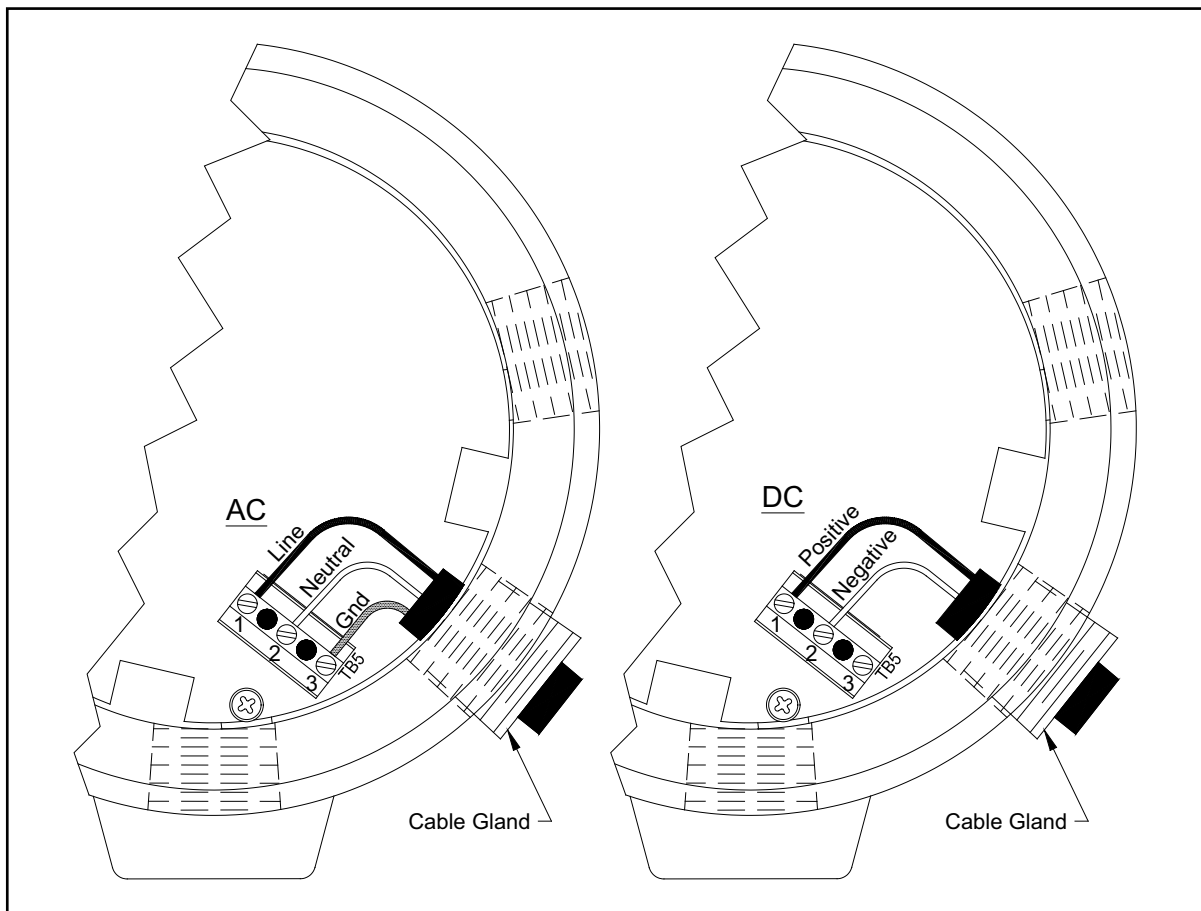
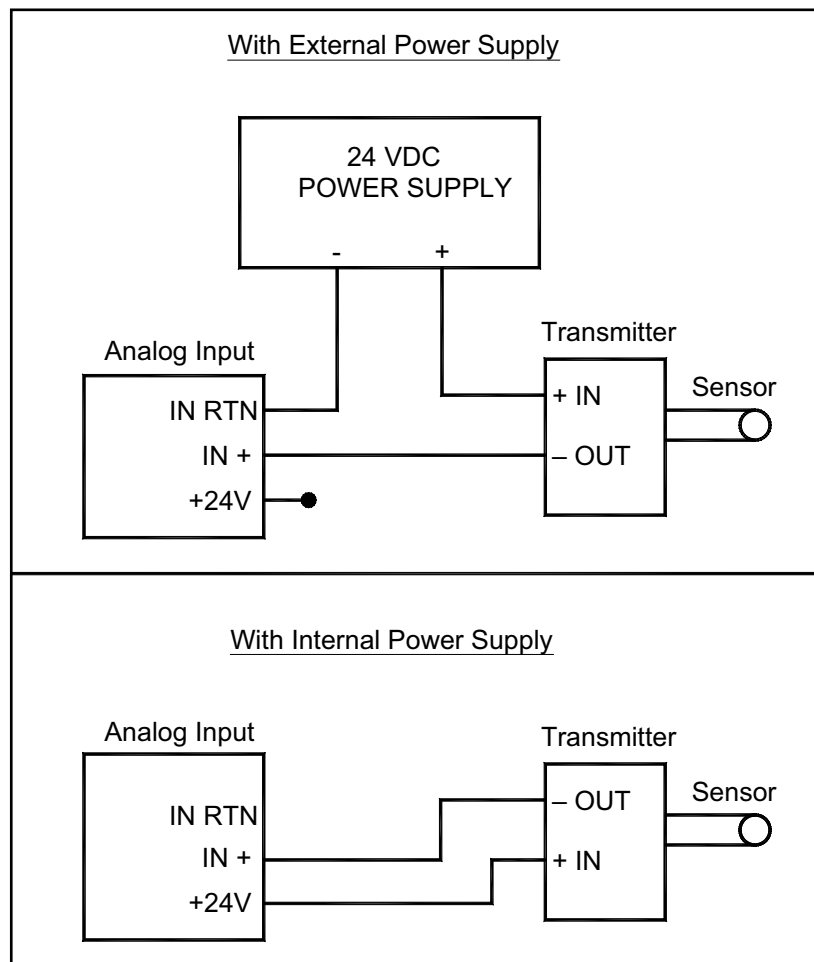
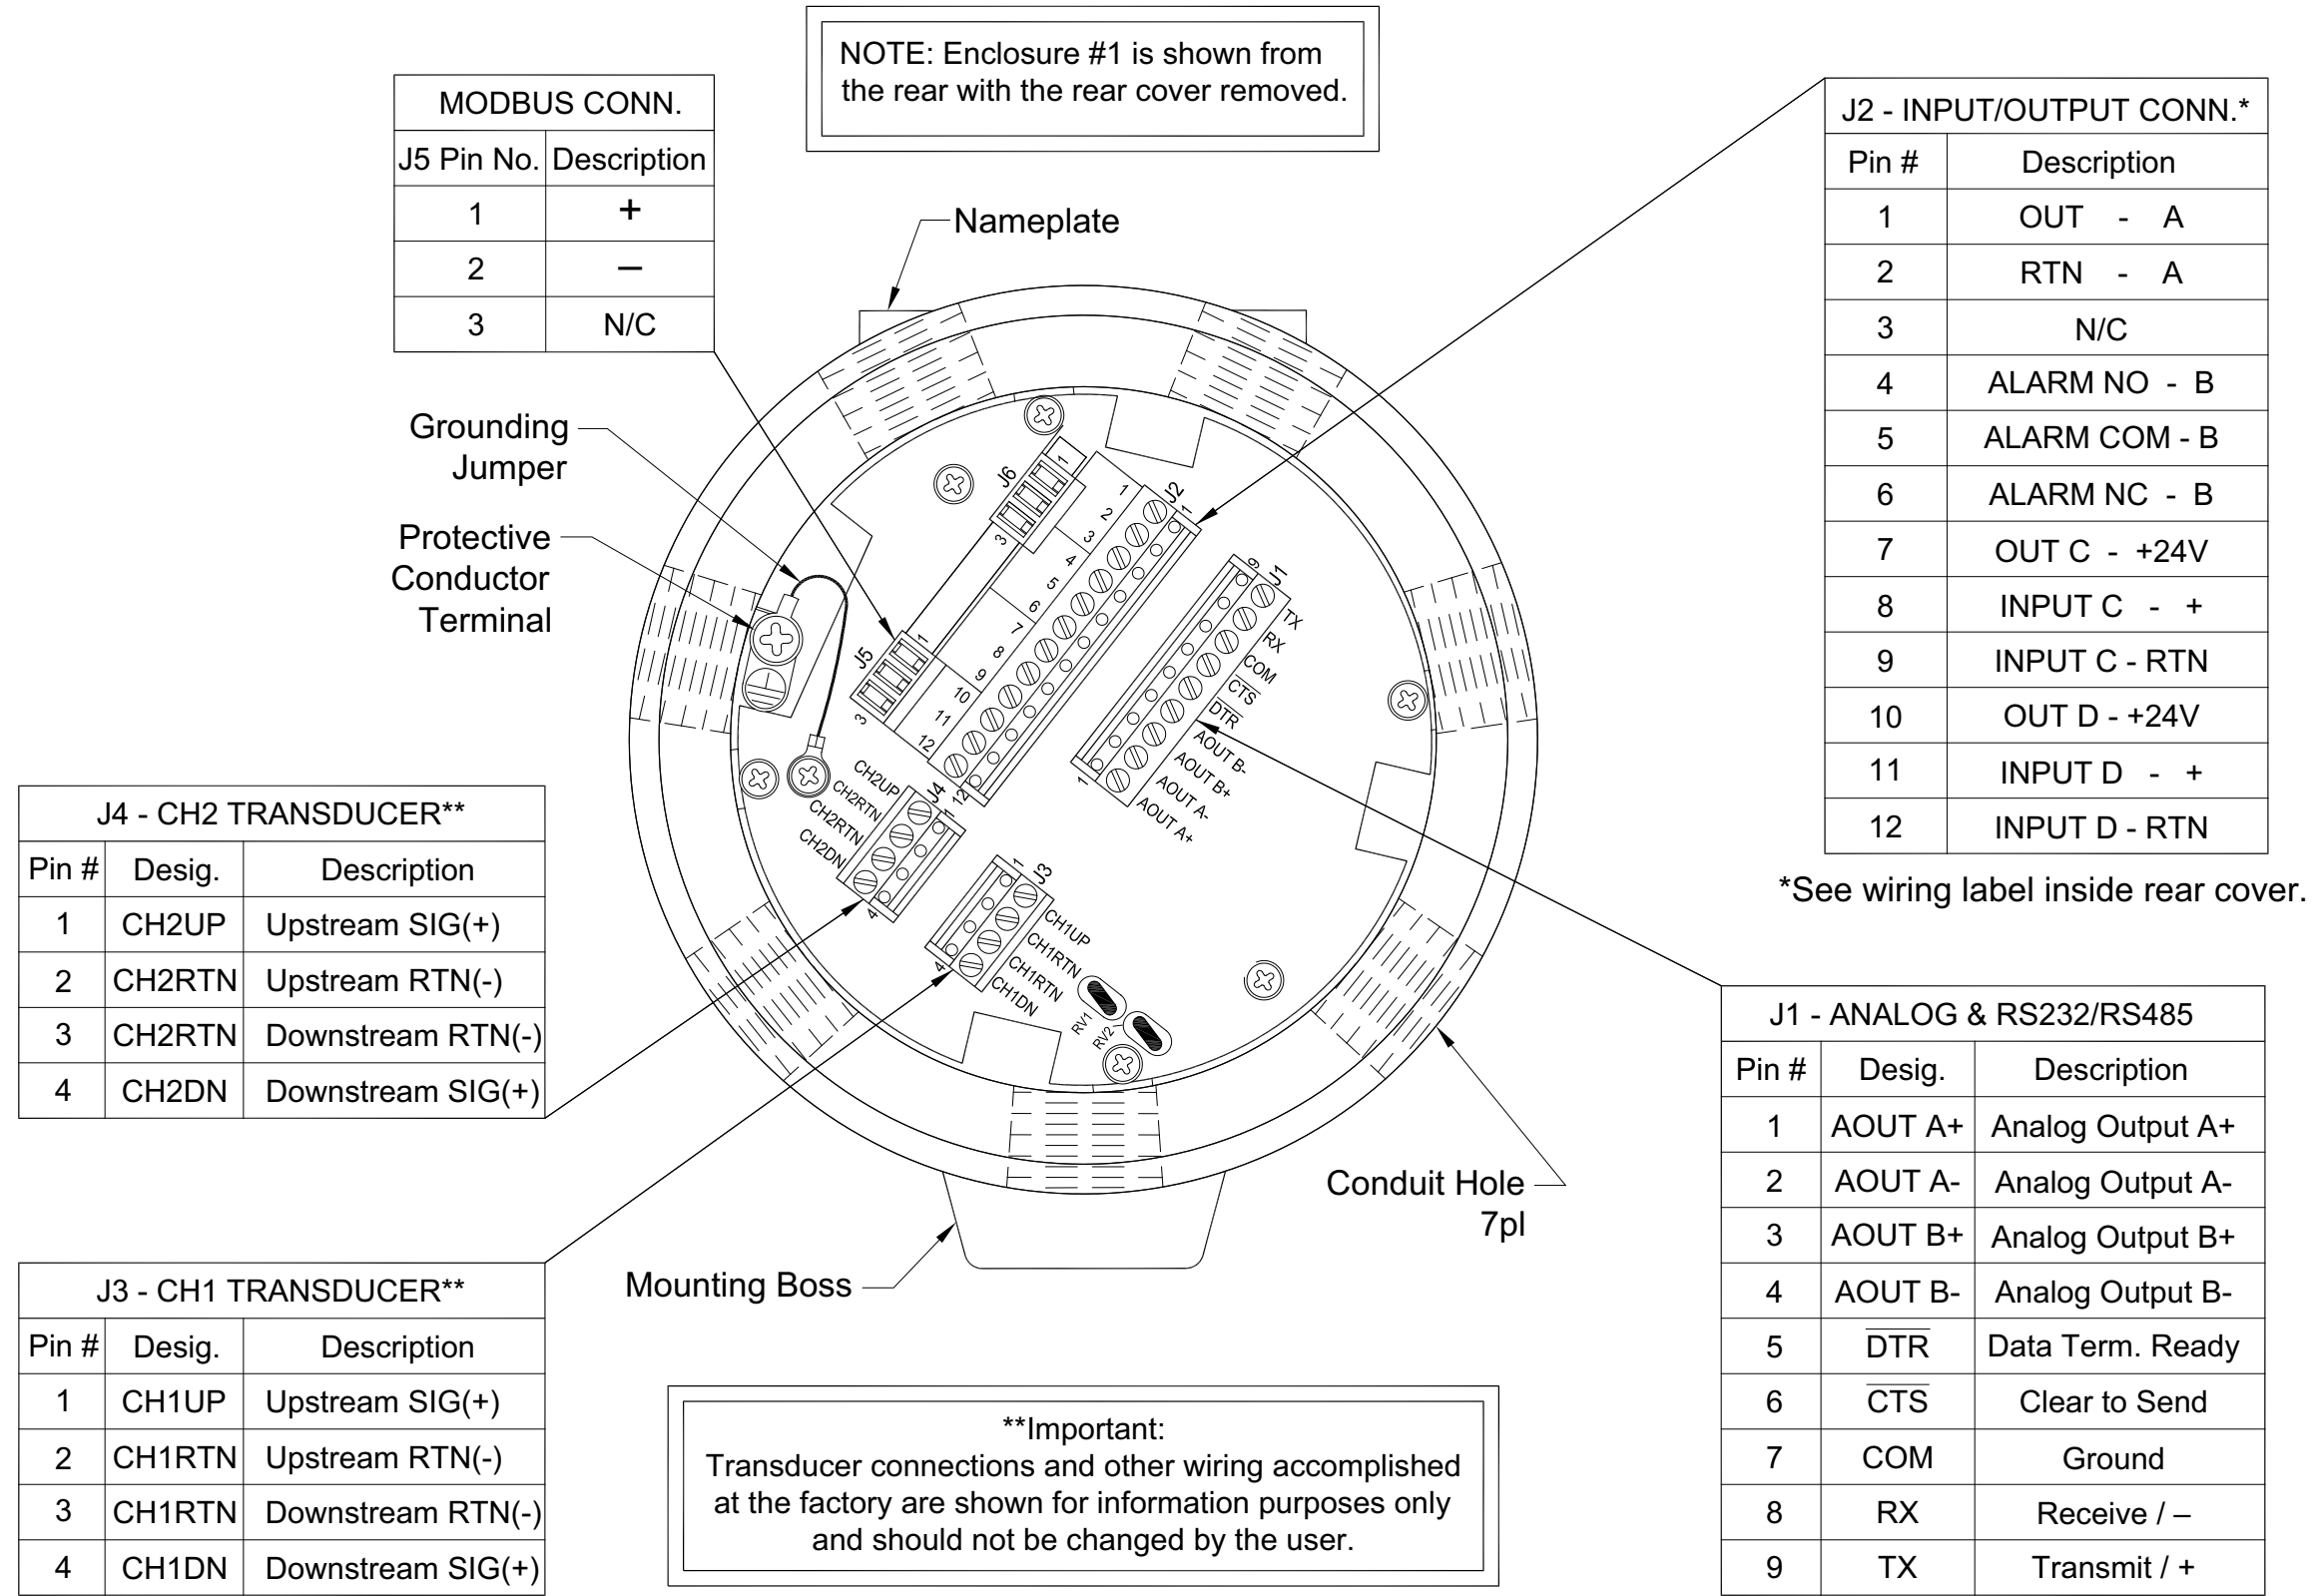

Figure 13: Enclosure #2 - Wiring the AC or DC Line Power
Figure 16: Analog Input Wiring Diagram
Figure 20: Sentinel Enclosure #1 - Terminal Block Layout
See *Figure 13 on page 17* to locate terminal block TB5 and connect the line power to the Sentinel as follows:
2. Install a suitable cable gland in the **Power Cable Inlet** conduit hole indicated in *Figure 13 on page 17*. If possible, avoid using the other conduit holes for this purpose, to minimize any interference in the circuitry from the AC power line.
4. Route the cable through the chosen conduit hole of enclosure #2 and connect the line power leads to terminal block TB5, using the pin number assignments shown in *Figure 21 on page 29* and *Figure 13 on page 17*.
To wire the RS485 serial port, refer to *Figure 20* on page 28 and either *Figure 22* on page 30 (AC) or *Figure 23* on page 31 (DC) and complete the following steps:
Connect the two leads and the shield of the *Modbus* line to terminal block J5, slot 2 of the flowmeter, as shown in *Figure 20 on page 28* and either *Figure 22 on page 30 (AC)* or *Figure 23 on page 31 (DC)*.
3. Locate the 12-pin terminal block (J2) in *Figure 20 on page 28* and wire the I/O terminal as indicated on the label inside the rear cover (see *Figure 13 on page 17* and *Figure 20 on page 28*). For wiring diagrams, see either *Figure 22 on page 30 (AC)* or *Figure 23 on page 31 (DC)*.
Connect the alarm relay in accordance with the wiring instructions shown on the label inside the enclosure #1 rear cover (see *Figure 13* on page 17 and *Figure 20* on page 28). For wiring diagrams, see either *Figure 22* on page 30 (AC) or *Figure 23* on page 31 (DC).
The analog inputs, which have an impedance of 118 ohms, should be connected with standard twisted-pair wiring. Power to the transmitters may be supplied either by the internal 24 VDC power supply on the analog input terminal or by an external power supply. Figure 16 below shows typical wiring diagrams, with and without an external power supply, for one of the analog inputs as shown on the label in the enclosure #1 rear cover (see Figure 13 on page 17 and Figure 20 on page 28).
3. Refer to *Figure 20 on page 28* for the location of the J1 terminal block and wire the analog outputs as shown. Secure the cable clamp.